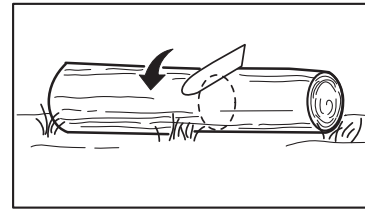

FIG. 4
1. Trunk supported along its entire length: Cut from the top down (Fig.4).